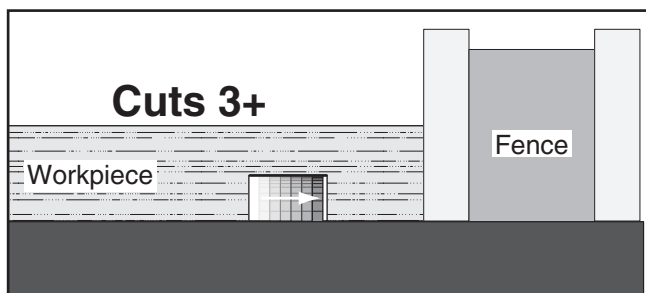

Figure 64. Additional single-blade dado cuts.
8. Make additional cuts (see **Figure 64**) in center of dado to clear out necessary material. Dado is complete when channel is completely cleared out.